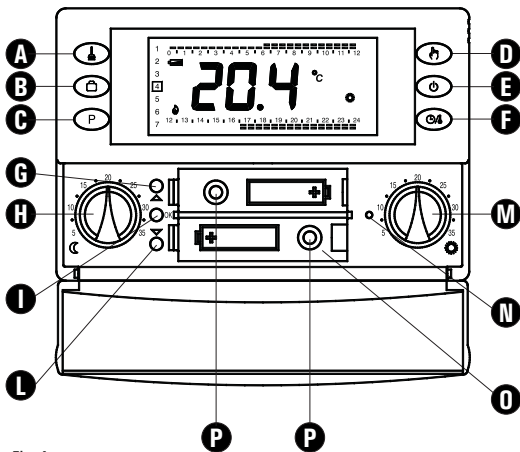

Fig. 4
1. Aprire lo sportellino che dà accesso al vano pile (Fig. 4).
4. Eseguire, se necessario, un reset tramite il tasto indicato in N di Fig. 4; **NON USARE AGHI O STRUMENTI CHE POSSANO DANNEGGIARE IRREPARABILMENTE IL CRONOTERMOSTATO.**
5. Insert the batteries in the battery compartment (O in Fig. 4); see paragraph 'HOW TO INSERT/REPLACE THE BATTERIES'.
Insert the batteries in the battery compartment, observing the polarities indicated (see paragraph 'HOW TO INSERT/REPLACE THE BATTERIES') and carry out a reset operation by inserting a pointed object through the hole provided (N in Fig. 4); **DO NOT USE NEEDLES OR TOOLS THAT COULD IRREPARABLY DAMAGE THE CHRONOSTAT.**
'OK': For programming the time and current day of the week (I in Fig. 4);
'▲': Forward (G in Fig. 4);
'▼': Back (L in Fig. 4);
The Comfort temperature is set by means of the '⊙' knob (M in Fig. 4) whereas the Economy temperature is set by means of the '☾' knob (H in Fig. 4).